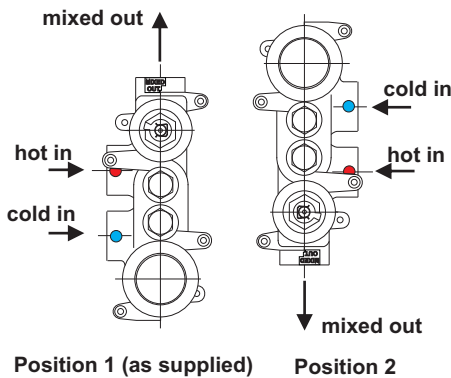
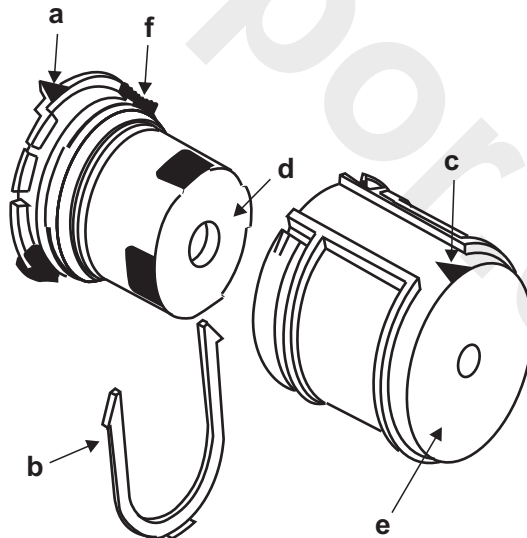

Figure 8 Preferred installation orientation
Figure 12 Temperature adjustment carrier exploded
The valve is supplied ready for installation as per position 1 in figure 8. If a configuration as shown in position 2 is required then the temperature adjustment carrier will need to be repositioned. To do this, remove the temperature adjustment carrier by rotating the black serrated lever ('f' in fig 12) clockwise. The carrier can then be pulled off. Refit the carrier by pushing it on - it will snap into position - with the triangular raised mark ('a' in fig 12) at the top.
Remove the temperature control handle and the shroud. The temperature adjustment carrier (1) can then be removed by sliding the serrated lever ("f" in fig 12) clockwise and pulling the carrier off. Remove the temperature handle extension (2) in exactly the same manner.
Remove handles and wall plate or covers. Slide out the red "U" clip (b Figure 12) and disconnect the handle carrier to expose the temperature control mechanism. Turn on the shower, position a thermometer in the running water and when the temperature settles, rotate the temperature control mechanism (d) until 40 °C is achieved. Replace the handle carrier (e) ensuring the arrow (c) is at 12 o'clock. Without rotating it, refit the red "U" clip (b). Replace the covers and handles.